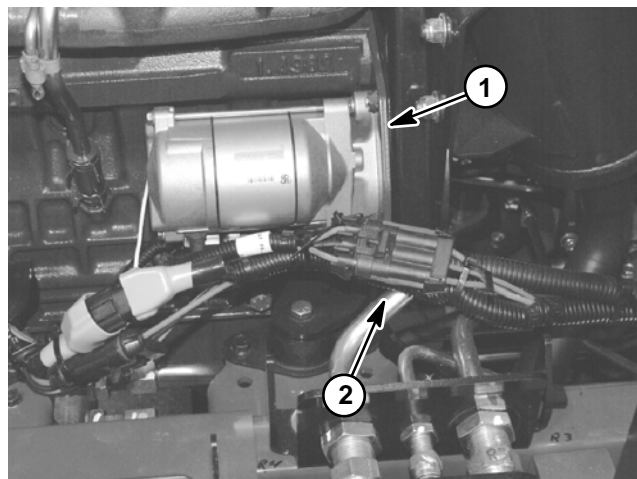

Figure 44
The Groundsmaster 4300-D uses four (4) fusible links for circuit protection. Three (3) of these fusible links are located in a harness that connects the starter B+ terminal to the wire harness (Figs. 44 and 45). The remaining fusible link is included in the wire harness and connects the starter terminal to the engine run solenoid pull coil. If any of these links should fail, current to the protected circuit will cease. Refer to wire harness drawings in Chapter 8 – Foldout Drawings for additional fusible link information.